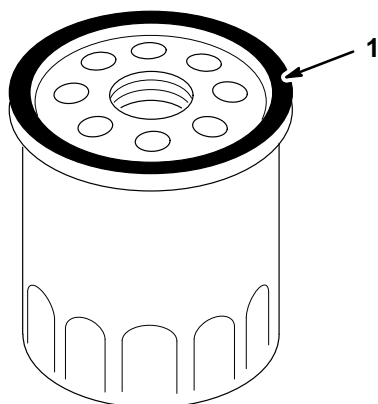

Figure 18
5. Using your finger, coat the gasket on the new filter with oil (Fig. 18).